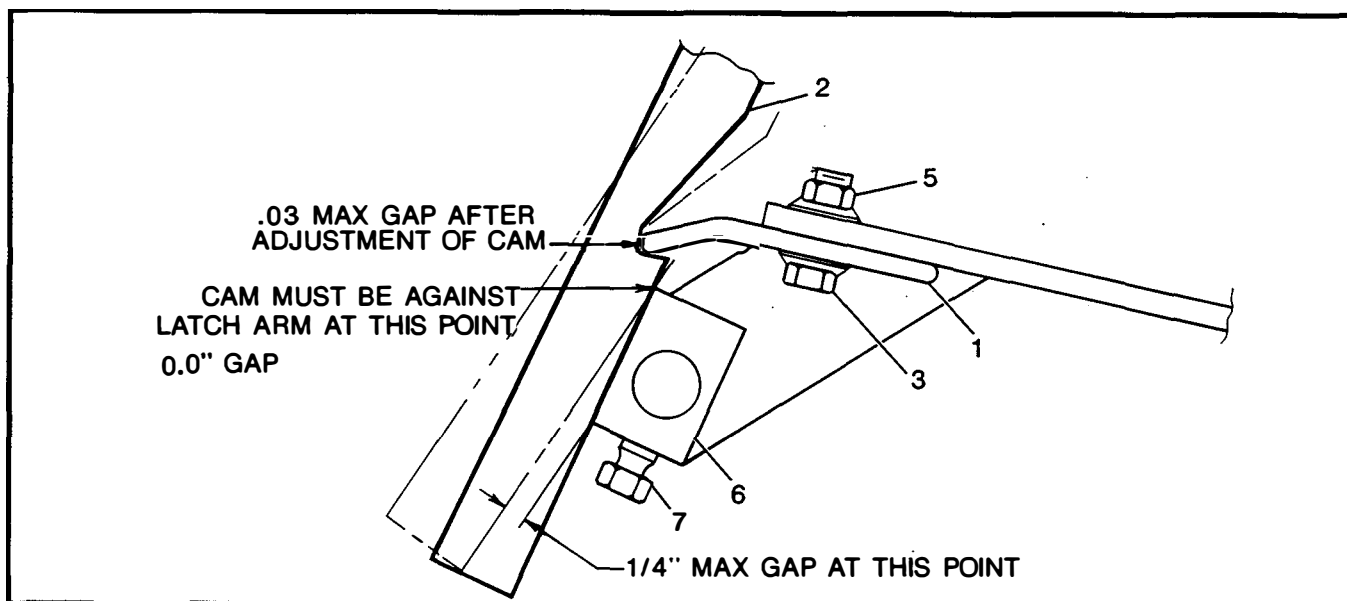
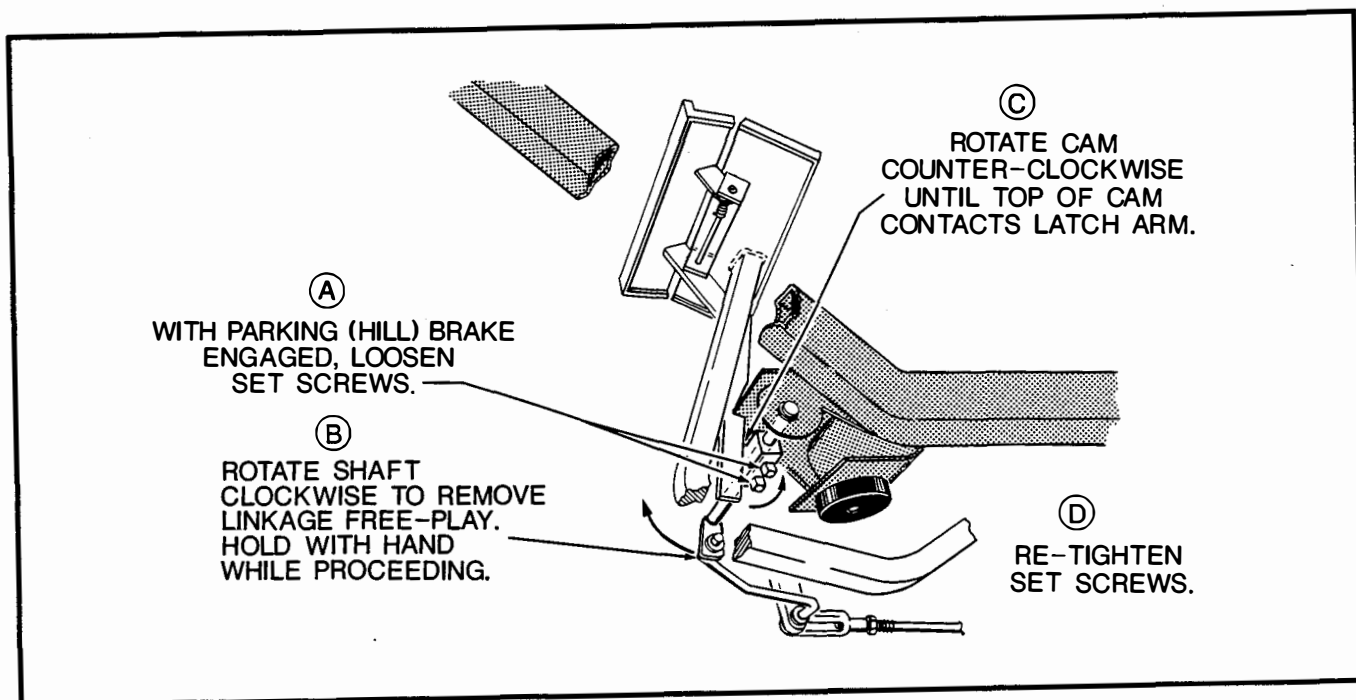

FIG. G-10 CATCH BRACKET ADJUSTMENT
FIG. G-11 PIVOT ARM ASSEMBLY
PARKING (HILL) BRAKE ADJUSTMENT (FIG. G-10)
- a) Inspect the catch bracket (1) and latch arm (2) for any damage or wear.
2. Roll the floormat back from the brake area to provide access to the 1/4" catch bracket mounting nuts (5).
3. Using a 7/16" wrench, remove the 1/4" x 3/4" long bolts (3), lock washers (4), and the nuts (5) which retain the catch bracket (1) to the brake bracket.
- d) Check the cam (6) for proper adjustment. When the latch arm is engaging the catch bracket, there must **NOT** be any gap between the top of the cam and the latch arm (FIG. G-10).
2. Loosen the two cam setscrews (7).
3. Rotate the pivot arm assembly (1, Fig. G-11) upward (clockwise when viewed from the driver's side of the vehicle) to remove the free play in the linkage.